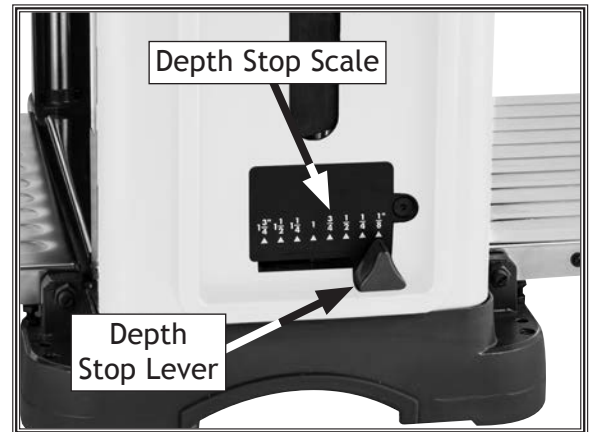

Figure 35. Location of depth stop handle.
2. Remove handle from depth stop lever by pulling handle firmly outward (see **Figure 35**).